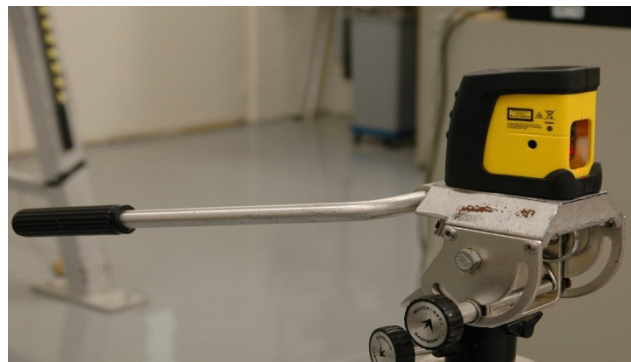

Figure 118. Laser line device set on tripod
- Unfasten the upper portion of the suit jacket and electrically ground the dummy using a cable between a metal component of the dummy and the ground such as that shown in Figure 118.